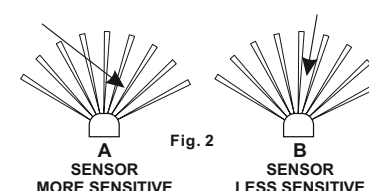

Fig. 2
- When choosing the mounting position consider that the sensor is more sensitive to motion across the detection field (A) and less sensitive to motion directly towards the sensor (B)(Fig.2).